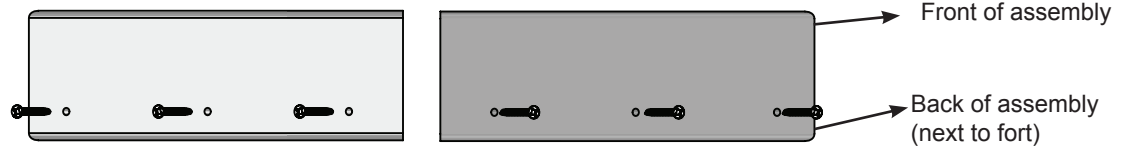

Fig. 45.3
B: Centred above the door on (063) Narrow Front Panel place each Bell Support Assembly so they are tight and form a peak then attach to (023) Narrow Front Panel with 1 (S3) #8 x 2-1/2" Wood Screw and 1 (S11) #8 x 2" Wood Screw per assembly. (fig. 45.3)